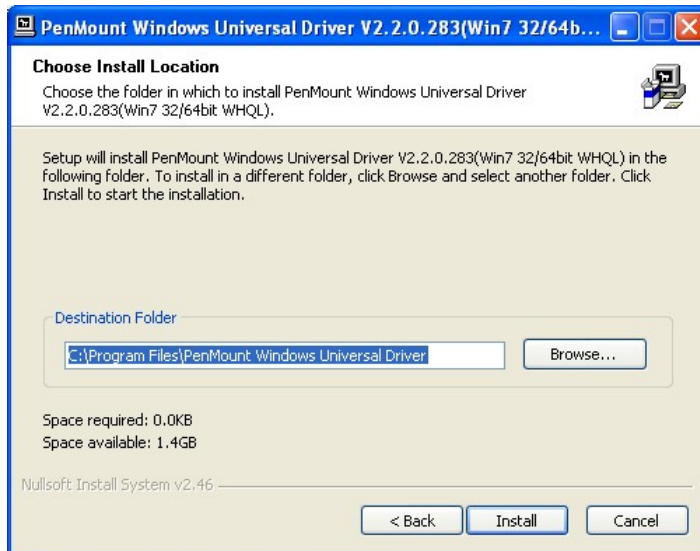

Figure 5-4: Initiate Install
Step 8: The installation destination screen appears. See Figure 5-4. Click Install.